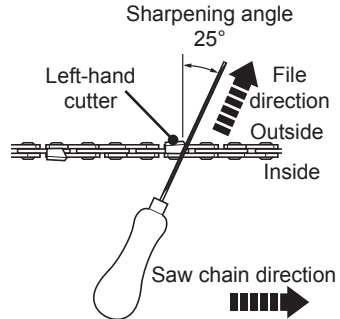

Fig. 24
5. File at an angle perpendicular to the bar, and at an angle of 25° to the direction of travel (Fig. 24).